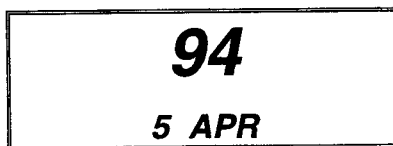

Fig 4.6 Setting the date
- (1) When **SET DATE** is displayed, press **ENTER** and the date is displayed in 'year', 'day' and 'month' (Fig 4.6).